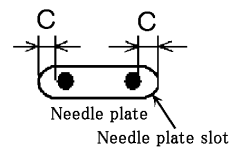

Fig.3
2. Measure the relative position (C) between the needle and the slot.(Fig. 3)
C = 0.7 ± 0.3 mm (Fig.3)